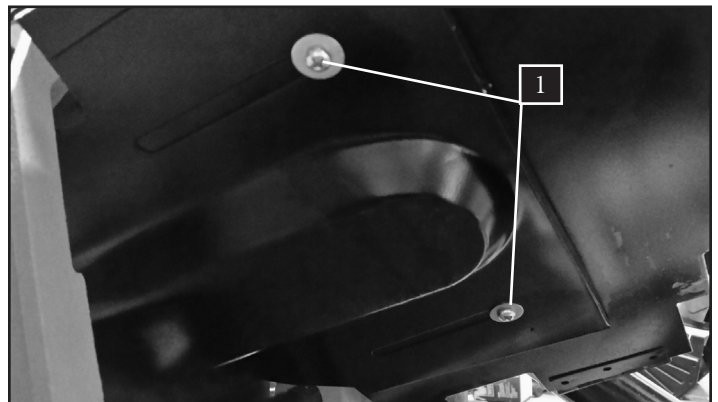

Fig. 27
5. Loosen the drive wheel cover screws (Fig. 27 - 1) to permit adjustment of the drive wheel cover as the blade cover is opened.
11. Close the blade cover door and secure with the cover washers and screws. Re-tighten drive wheel cover screws (Fig. 27 - 1).
4. Loosen the drive wheel cover screws (Fig. 27 - 1) to permit full opening of the cover.
9. Close the blade cover door and secure with the cover washers and screws. Re-tighten drive wheel cover screws (Fig. 27 - 1).